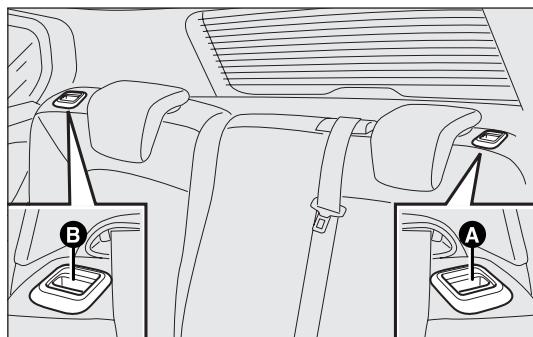

fig. 101
- ☐ lift handle A or B-fig. 101 to release either the left or right part of the backrest and guide the backrest down onto the cushion.
- ☐ lift handles A and B-fig. 101 to release the backrests and guide them down onto the cushion.